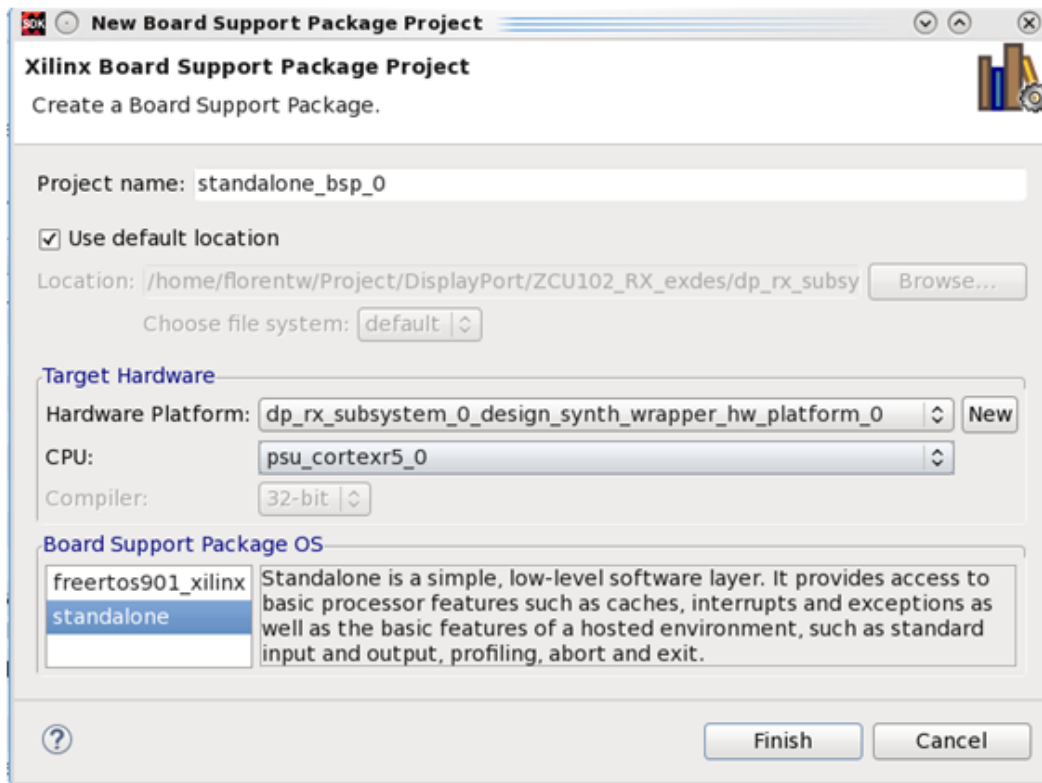

Figure 5-14: New Board Support Package Project
15. To create a Board Support Package (BSP), click **File > New > Board Support Package**. Enter the BSP **Project name**, click **Finish** (Figure 5-14), and then **OK**. For ZCU102 board, ensure the target CPU is the Cortex R5_0 (psu_cortexr5_0)